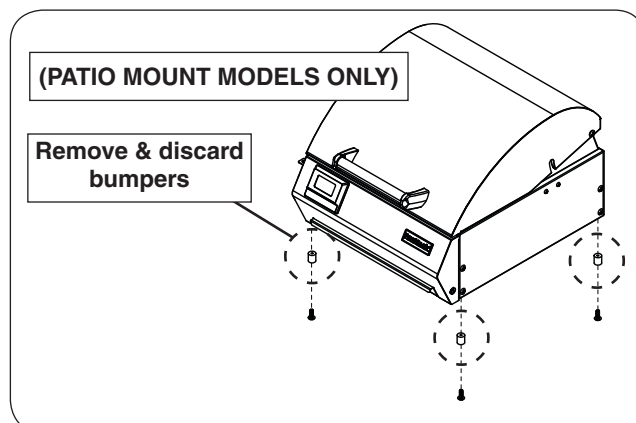

Fig. 10-2 Remove bumpers (if applicable)
2. Using a Phillips screwdriver, remove the four screws and bumpers on the bottom of the grill. Discard the bumpers. See Fig. 10-2.